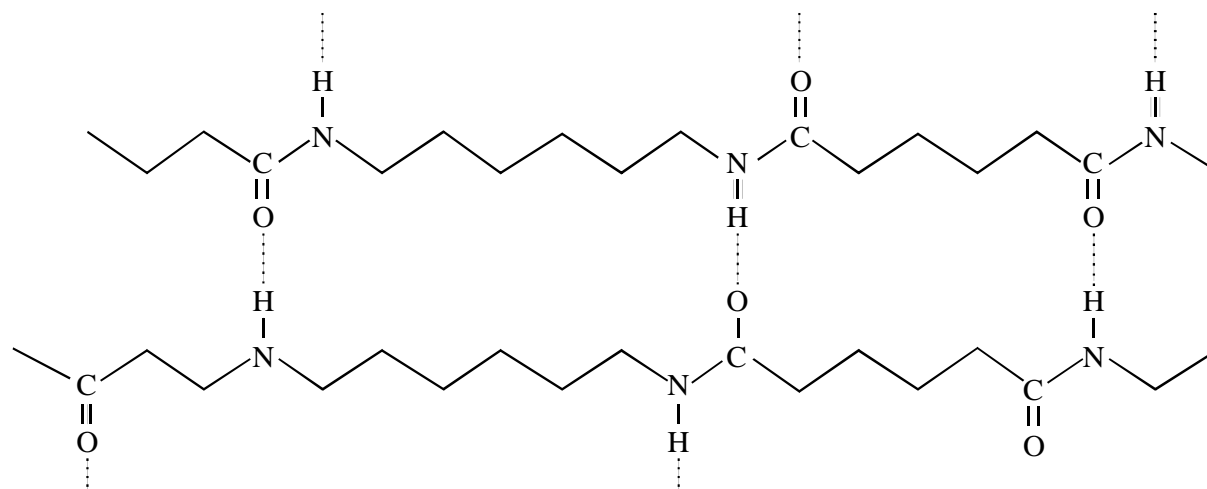

Fig. 23.3: Hydrogen bonding in Nylon-6,6
- (b) **Fibres :** Fibres are the thread forming polymers possessing very high tensile strength, high modulus, but least elasticity which are attributed due to very strong inter molecular forces of attractions like hydrogen bonding or dipole interactions (Fig. 23.3)